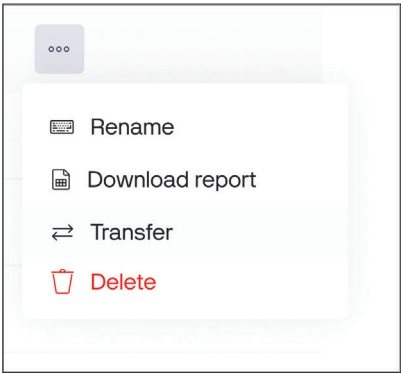

Figure 65. Transferring Device Option
3. Click on the “...” button on the top right menu and select “Transfer”. See **Figure 65**.